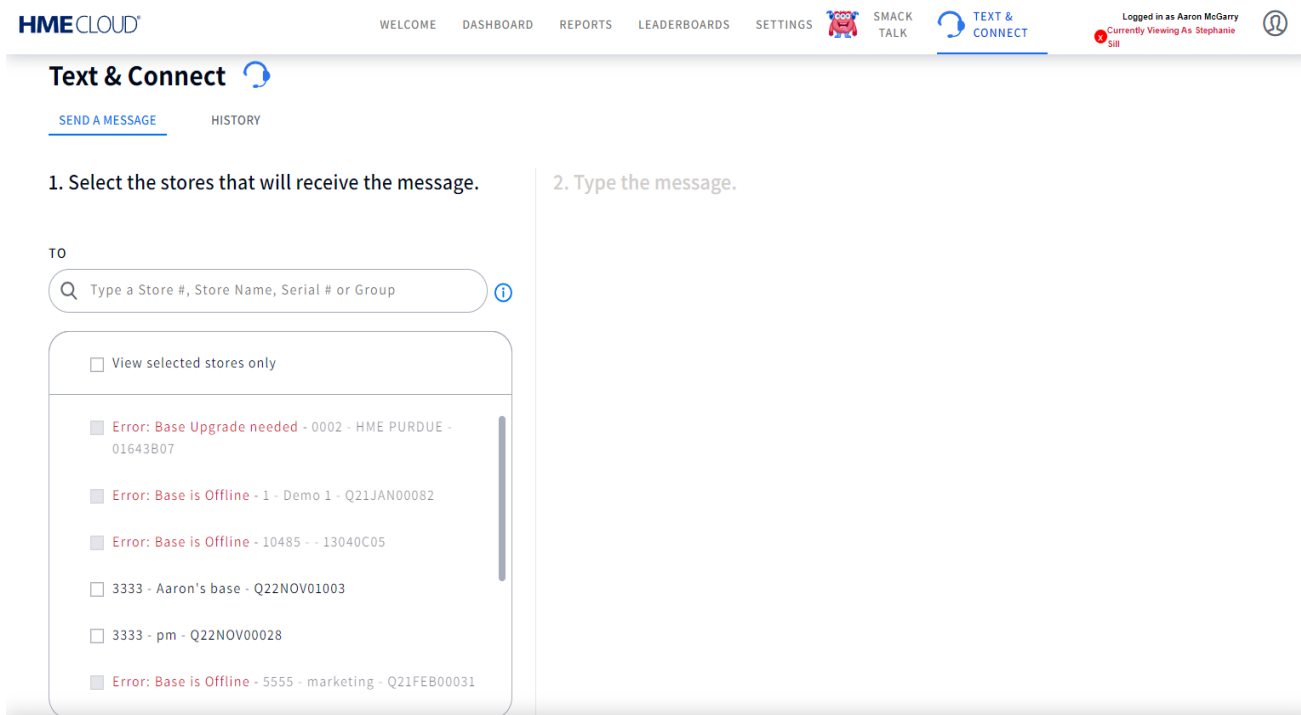

Fig. 8.13
- This opens the Text & Connect page (Fig. 8.13). All the stores associated with your account will be displayed on the store list on the left. Base stations that are offline or in need of an upgrade will be listed in red with a grayed-out check box indicating this device cannot be selected. The example in Fig. 8.13 only shows two available options.